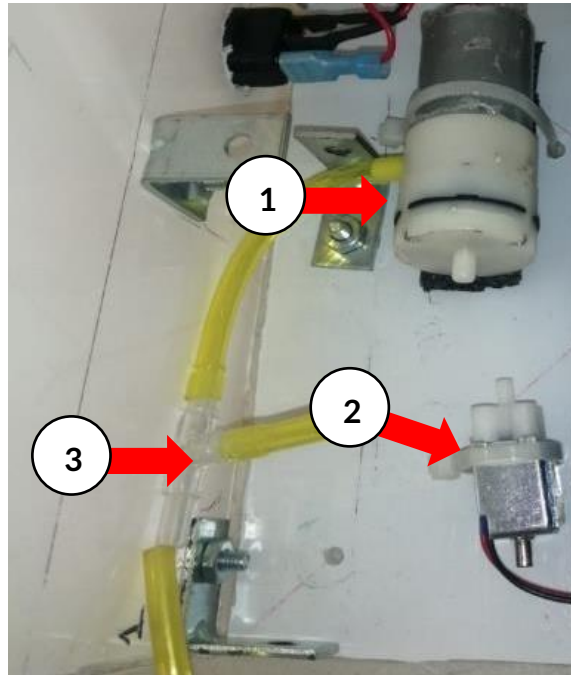

Figure 23- Connection of the hose with the pneumatic motor.
6. Join the hose to the pneumatic motor (1) and to the solenoid valve (2) with a T-joint (3) shown in Figure 23.